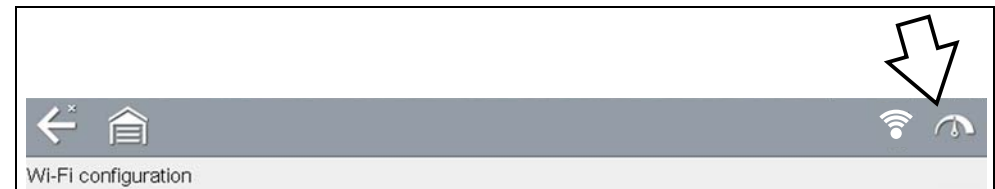

Figure 11-3 Wi-Fi Test Icon
3. From the Wi-Fi configuration screen, select the **Wi-Fi Test** icon to open the network connection test screen (Figure 11-3).